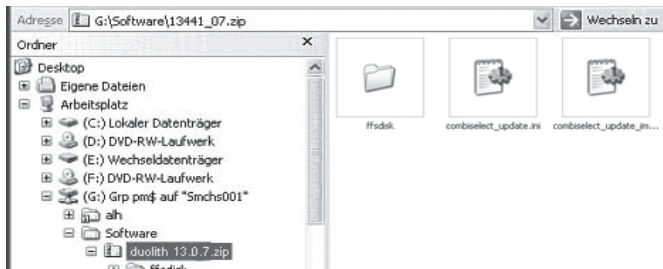

Fig.3-27 Folder with update files
- In this folder, select the "combiselect_update.ini" and "combiselect_update_img.ini" files and the "ffsdisk" folder (Fig.3-27) and copy them onto your USB stick.